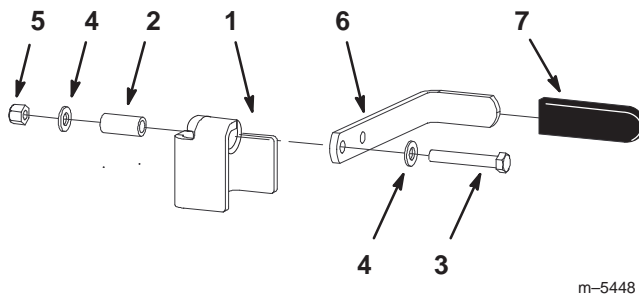

Figure 2
1. Install grip onto handle (Fig. 2).
2. Install bushing into the upper bracket (Fig. 2).
3. Install the handle to bracket with a bolt (3/8 x 2.50 in.), 2 washers (7/16 in.) and a locknut (3/8 in.) (Fig. 2).